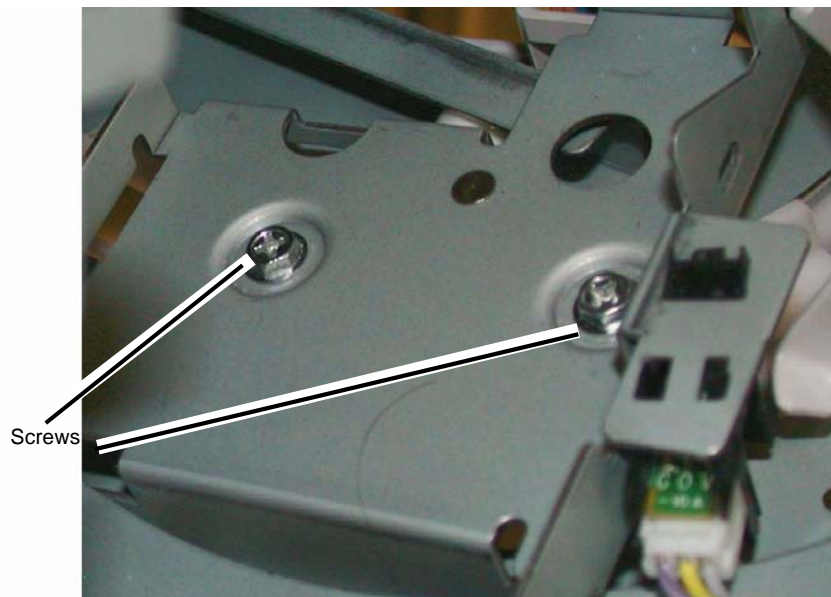

Figure 1 Removing the Screws
3. Remove the Screws (2) (Figure 1).